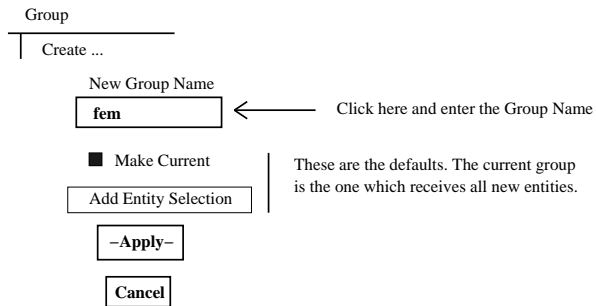

Figure 23: Define a new group
- Click on the **Group** label at the top window (Figure 23). Choose the **Create...** option. Enter 'fem' in the box with the heading 'New Group Name'.